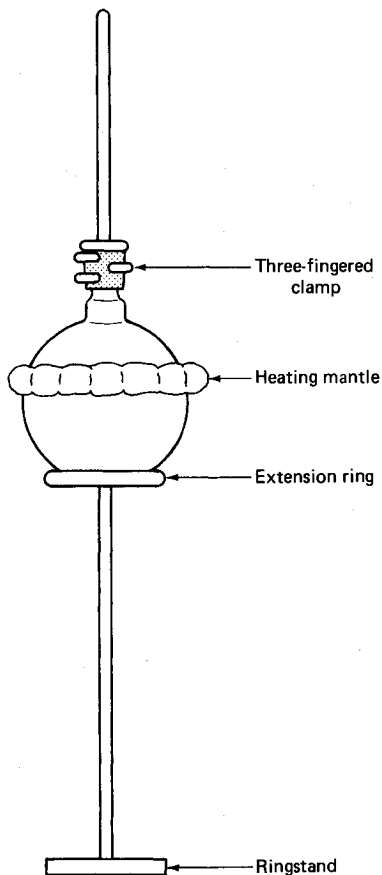

Fig. 68 Flask and heating mantle out on a ringstand.
2. Clamp the flask (around the neck) a few inches up the ringstand (Fig. 68). *We are using heating mantles and you'll need the room underneath to drop the mantle in case it gets too hot. That's why the flask is clamped at the neck. Yes. That's where the flask is ALWAYS clamped, no matter what heat source, so it doesn't fall when the mantle comes down. What holds the mantle? Extension ring and clamp fastener.*